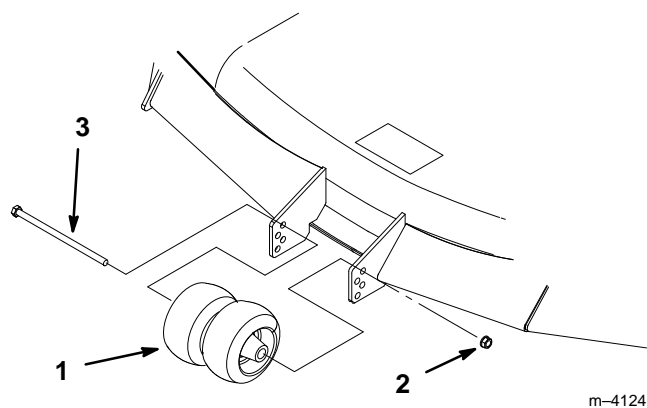

Figure 14
1. After adjusting height-of-cut, remove bolt and flange nut (Fig. 14).
2. Select hole so gage wheel is positioned to the nearest corresponding height-of-cut desired (Fig. 14).
3. Reinstall the bolt, center rollers and flange nut (Fig. 14).